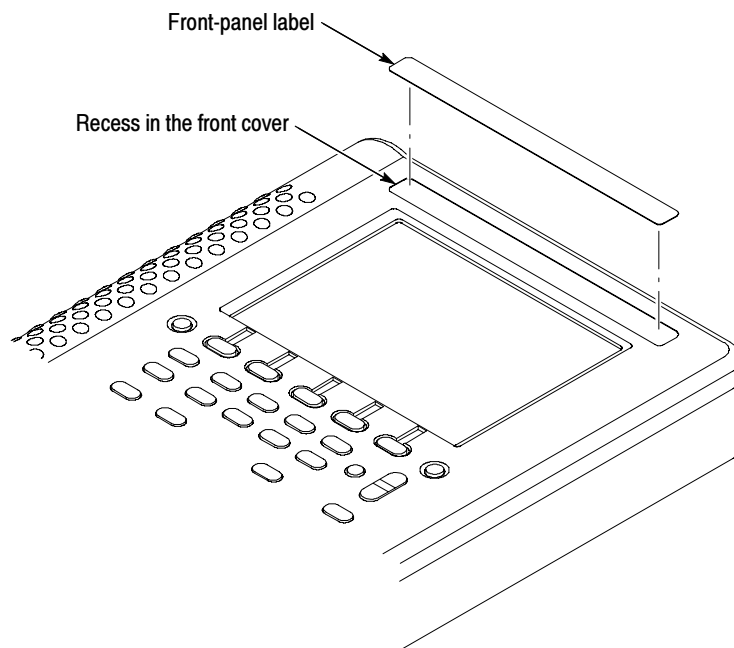

Figure 13: Installing a new front-panel label
2. Handling the label by its edges only, align it with the recess in the front cover as shown in Figure 13.